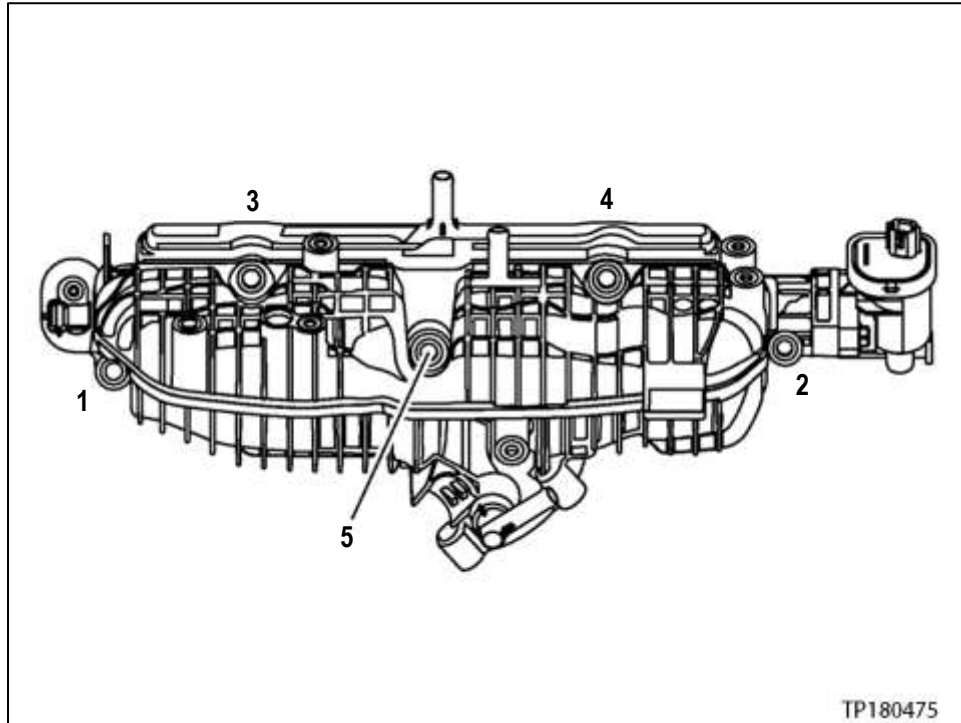

Figure 29
- a. Loosen the intake manifold bolts in the sequence shown in Figure 29, and then remove them.